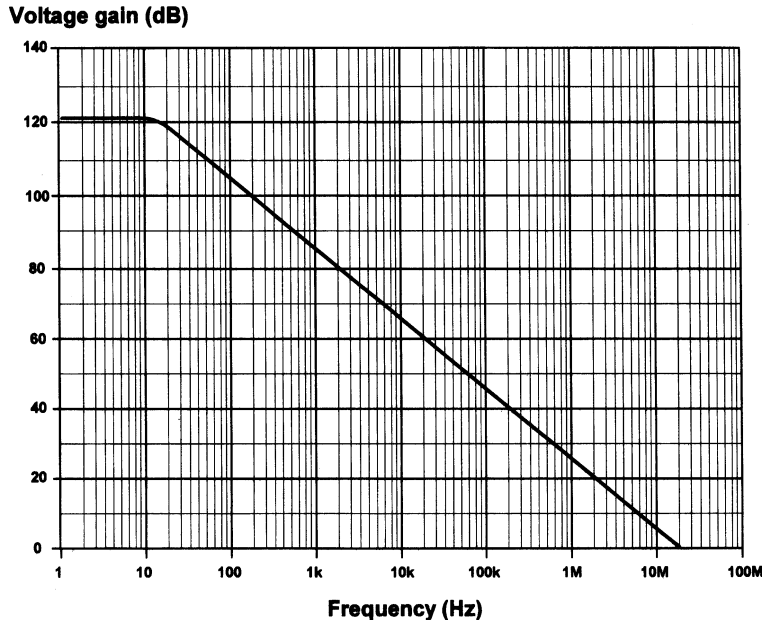

Figure A2.20
43. The frequency response characteristic of an operational amplifier is shown in Fig. A2.20. If the device is configured for a closed-loop gain of 200, determine the resulting bandwidth. [Page 142]